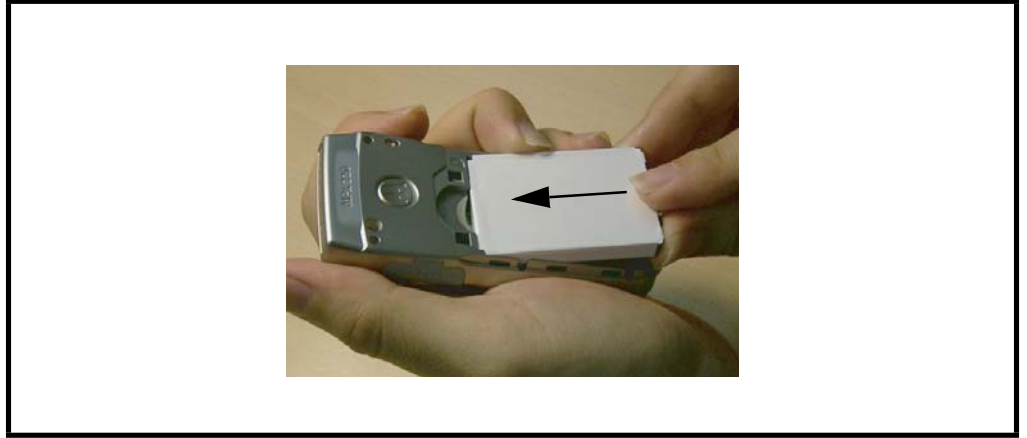

Figure 7. Replacing the Battery
3. To replace, insert the battery with the metal contacts on the top end in alignment with the ones on the battery compartment as shown in Figure 7. Then push the bottom end down into the battery compartment so that the battery locks into place.